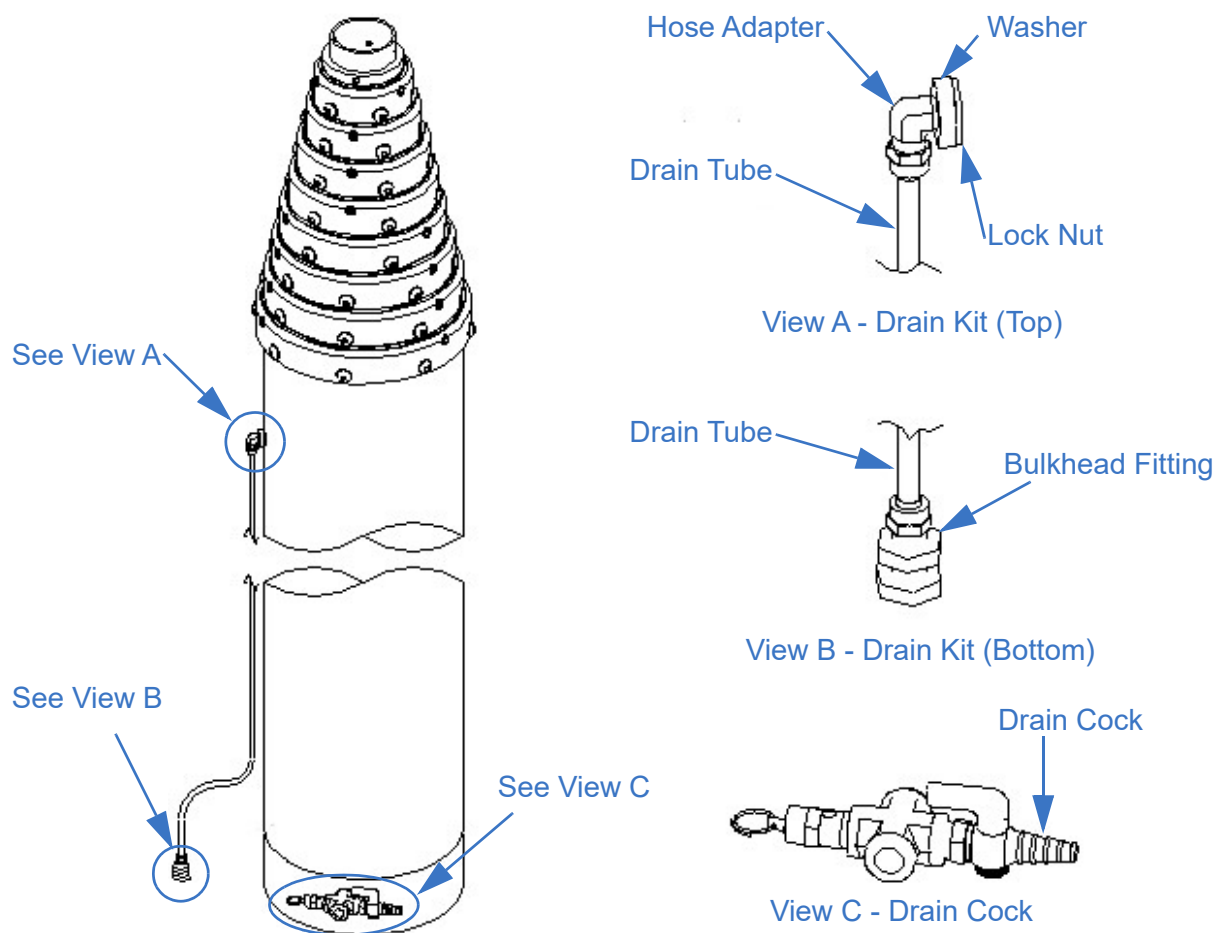

Figure 4-6 Drain Kit Installation
2. Fasten hose adapter to base mast section weep hole (Figure 4-6). Apply PTFE tape to all threaded joints. Turn the hose adapter in ONLY 1 ½ to 2 turns after initial engagement of threads. Further turning will damage mast. Tighten the locknut to secure in place.